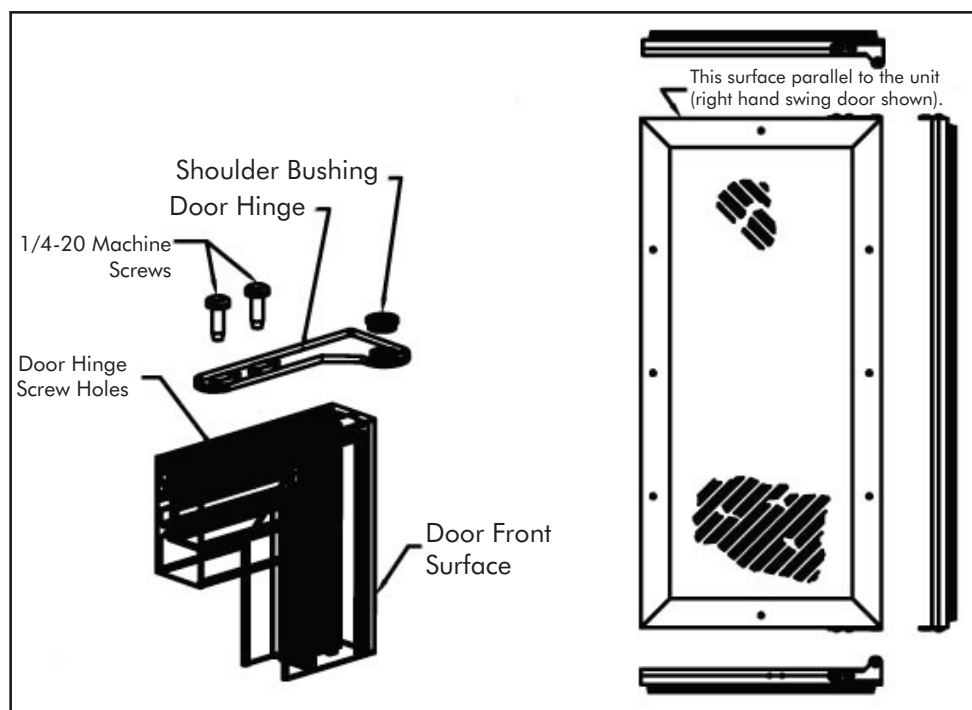

Figure 1: Typical Top and Bottom Door Hinge Assembly
1. Attach the top and bottom door hinge bushing brackets to the door with the 1/4-20 machine screws and a 5/32 inch Allen head driver as shown in Figure 1.